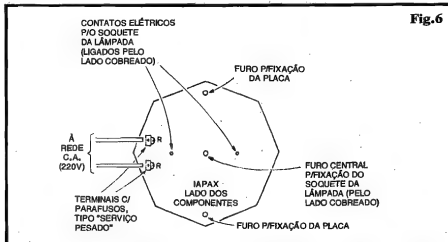

Fig. 6
- FIG. 6 - DETALHES DAS CONEXÕES E DISPOSIÇÕES GE-